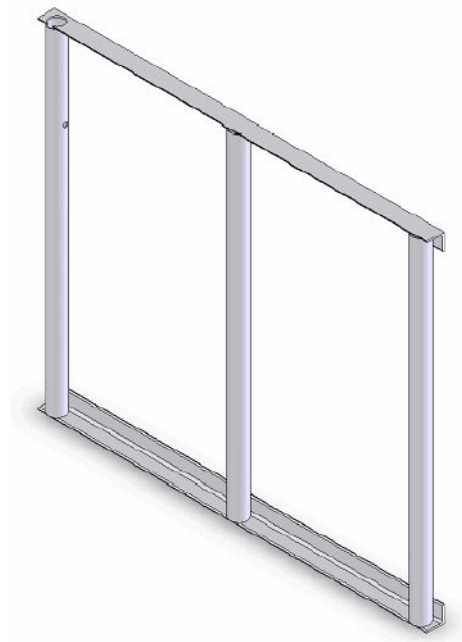

Figure C-2: H-Frame
- **Antenna Mounting Frame (H-Frame):** The H-Frame (Figure C-2) has three 60 mm hollow pipes, placed at equal distances from each other and connected by an L-shaped steel beam at each end. There is a hole at one end of the frame to insert a lightning protector rod, and antenna cables can be secured in place with wires inserted through holes in the L-shaped beams.